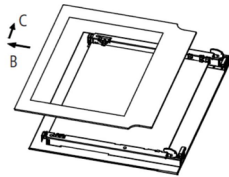

Fig. 4
2. Take out inner glass slowly, following the direction of the arrow (B) then (C)(Fig.4)